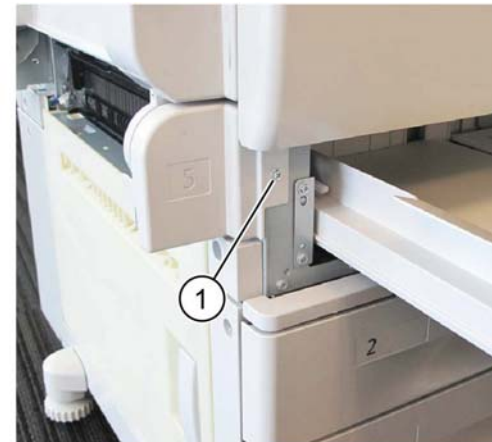

Figure 1 Hinge front cover
2. Pull out tray 1. Remove the screw (1) that secures the hinge front cover, **Figure 1**.